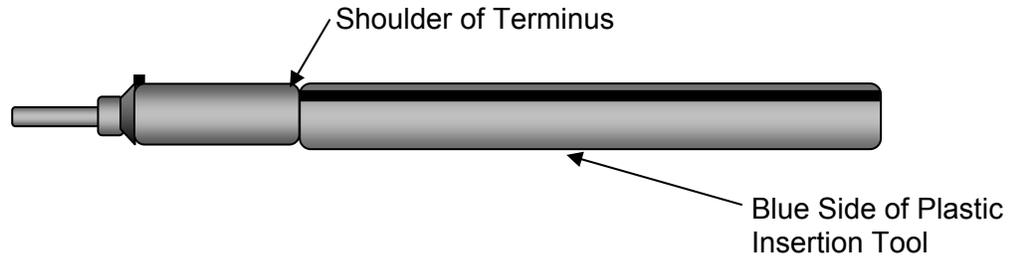

Figure 7-43 – Installing Terminus into Blue Side of the Insertion Tool
Step 2 - Place the terminus into the insertion tool (blue side) around the cable and slide up to the shoulder of the terminus See Figure 7-43.